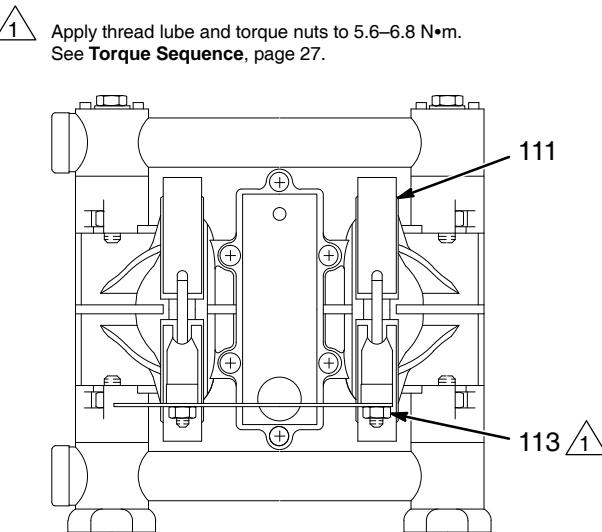

Fig. 7
When tightening the clamps (111), apply thread lubricant to the bolts and **be sure** to torque the nuts (113) to 5.6–6.8 N·m. See Fig. 7. See **Torque Sequence**, page 27.